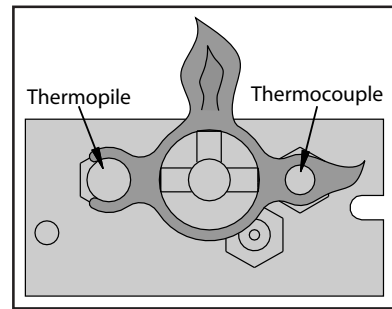

Figure 3. Pilot Flame
1. Turn off the gas to the fireplace. **If not recently done, remove the glass and let the unit air out for at least five (5) minutes to clear out any gas.** Turn on gas to the heater.
2. Start the pilot by pressing the gas control knob (Figure 5) and turning it to PILOT. While holding the gas control knob in, press the piezo ignitor several times until the pilot light starts. Hold the gas control knob in for 30 seconds. Check that the pilot has fully engulfed the thermocouple assembly (see Figure 3).